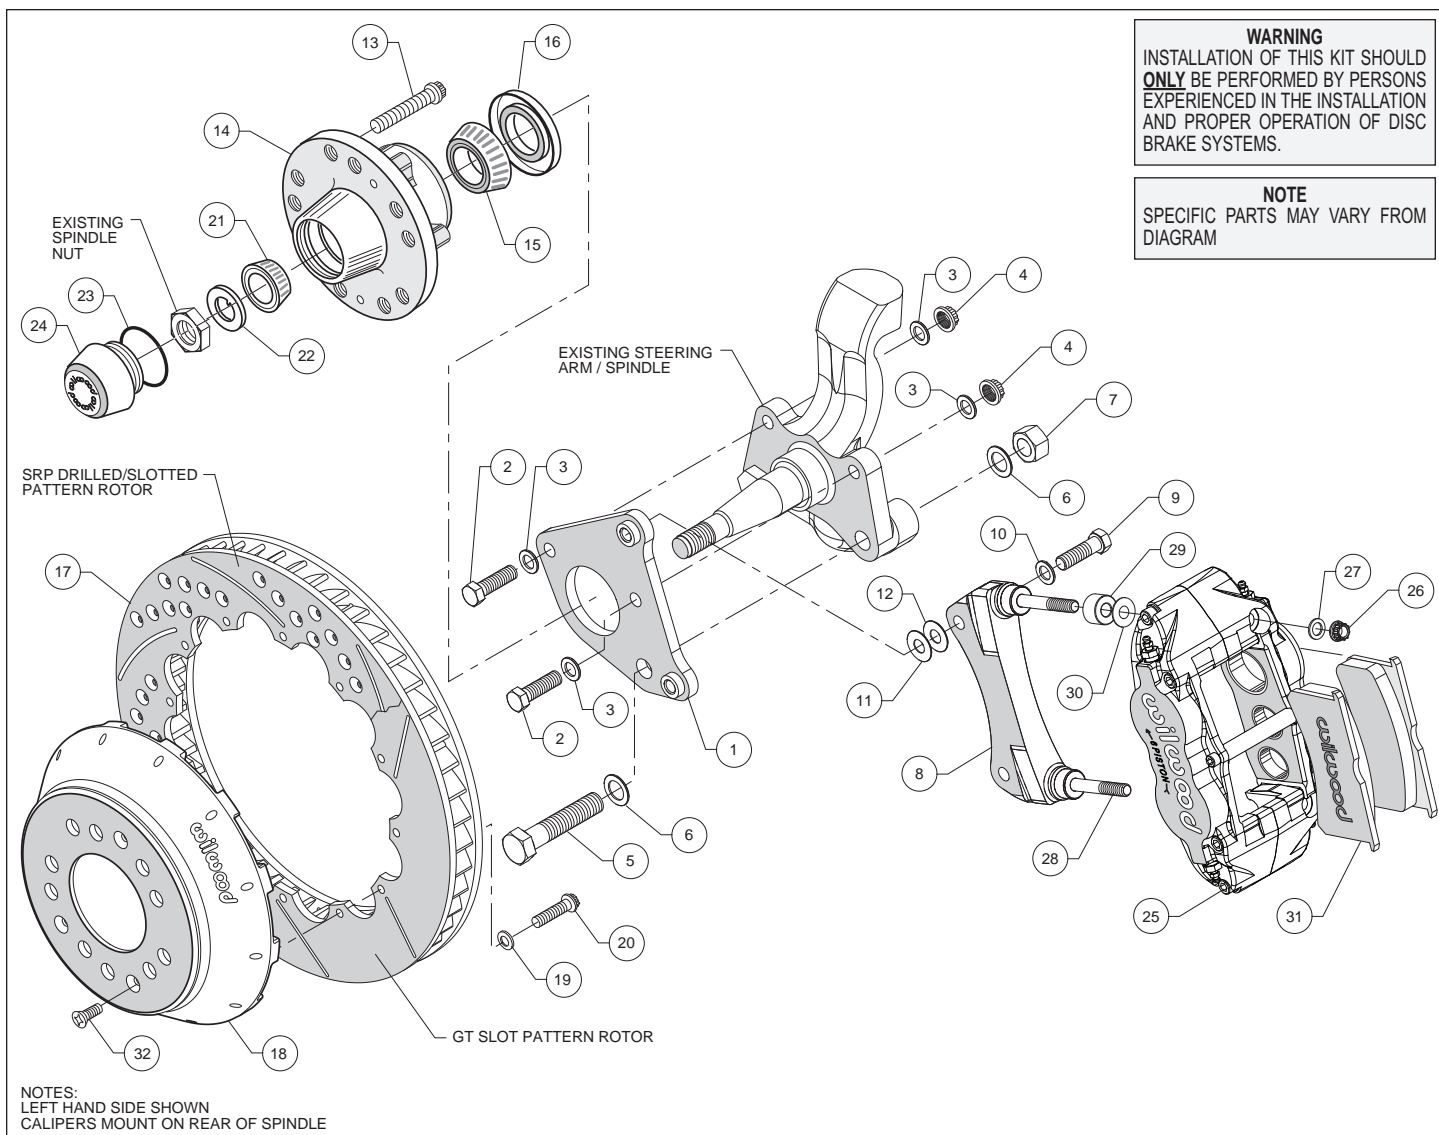
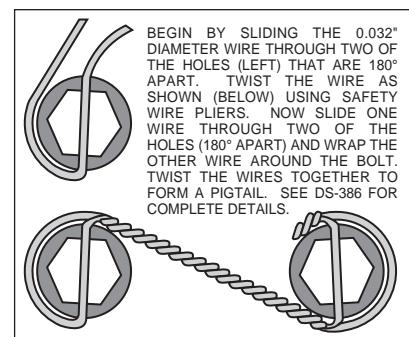

Figure 1. Typical Installation Configuration
Figure 3. Safety Wire Diagram
- Apply red *Loctite*® 271 to bolt threads (2 and 5) before assembly of the flat caliper bracket (1) to backing plate face of spindle. Install bolt (5) and washer (6) through caliper bracket (1), spindle face and the steering arm. Install another washer (6) and lock nut (7) on the rear side. Install two bolts (2) with washer (3) through caliper bracket (1), spindle face and the steering arm. Install another washer (3) and lock nut (4) on the rear side. Torque two lock nuts (4) to 47 ft-lb. Torque lock nut (7) to 140 ft-lb. **NOTE:** Be sure the heads of the caliper bracket (1) insert nuts are facing outward toward the wheel. Reference Figure 1 as necessary.
- The radial caliper mounting bracket assembly (8) should be installed first with clean, dry threads on the mounting bolts. Install the bracket on the inboard side of the flat caliper mounting bracket (1) by sliding bolt (9) through flat washer (10), through the mounting hole in the bracket (8) and into the flat bracket (1) insert nuts. Initially place two shim washers (12) between the two brackets (1 and 8) (see figure 1). The radial bracket (8) must tighten squarely against the inboard side of the flat mounting bracket (1). Later, after the caliper, pad, and rotor alignment has been checked, and any necessary shims have been put in place, the mount bolts should be coated with red *Loctite*® 271 and torqued to 47 ft-lbs.
- Install five new wheel studs (13) into the hub (14). Torque to 77 ft-lb. **NOTE:** There are two five lug patterns in the hub (5 x 4.00 and 5 x 4.50). Make sure of the correct hole pattern for the correct wheel application before installing studs into hub.
- Pack the large inner bearing cone (16) with high temperature disc brake bearing grease (available from your local auto parts store) and install into the backside of the hub (14).
- Install the grease seal (16) by pressing into the backside of the hub (14).
- With the larger I.D. side of the rotor (17) facing away from the hat (18), bolt rotor (17) to hat (18) through the backside of the rotor using washers (19) and bolts (20). Using an alternating sequence, apply red *Loctite*® 271 to the threads and torque bolts to 155 in-lb. For an added measure of security, the bolts may be safety wired using standard 0.032 inch diameter stainless steel safety wire as shown in Figure 3. Please refer to Wilwood's data sheet DS-386 (available at www.wilwood.com/Pdf/DataSheets/ds386.pdf) for complete safety wire installation instructions.
- Pack the small outer bearing cone (21) with high temperature disc brake bearing grease. Lightly coat the spindle bearing surfaces with bearing grease. Slide the hub assembly (13, 14, 15 and 16) with outer bearing cone (21) onto the spindle. Secure using spindle washer (22), existing adjusting nut and nut locking device.
- Install the dust cap (24) onto the hub (23). Friction created by the o-ring (23) on the dust cap (24) keeps it from unscrewing. The O.D. of the existing spindle washer may be larger than the I.D. of the dust cap (24) which may allow the washer to contact the dust cap (24). Use the spindle washer (22) supplied with the kit instead of the stock washer.
- **NOTE:** *This kit contains distinct right and left hand calipers that must be mounted in a specific direction, as described below.* Lubricate the caliper mounting studs (28) with lightweight oil. Initially place two .035" thick shims (29) and one spacer (30) on each stud as shown in Figure 1. Mount the caliper (25) onto the bracket (8) using lock nuts (26) and washers (27), Figure 1. Ensure that the caliper is mounted so that the largest pistons are at the rotor exit end of the caliper, in relation to the direction of rotor rotation. Temporarily tighten the lock nuts and view the rotor through the top opening of the caliper. The rotor should be centered in the caliper. If not, adjust by adding or subtracting shims (11 and/or 12) between the radial bracket and the spindle bracket. Always use the same amount of shims on each of the two mounting bolts.
- Remove the caliper center bridge pad retainer bolt, nut, and tube from the caliper. Slide the brake pads (31) into place. They should install easily without interference. Check that the outside radius of the brake pad is flush with the outside diameter of the rotor face. Add or subtract shims (30) between the caliper and radial mounting bracket to gain the proper alignment. Reinstall the center bridge pad retainer tube, bolt, and locknut. The locknut should be snug without play in the bolt or tube. Be cautious not to over tighten.
- Once all clearances have been checked, remove the wheel, caliper, hat, and rotor from the spindle and hub. Secure the radial caliper mounting bracket (8) to the flat caliper mounting bracket (1) using red *Loctite*[®] 271. Torque the bolts to 47 ft-lbs. Reinstall the hat and rotor assembly and again use several lug nuts to hold it in place. Reinstall the caliper, torque the caliper nuts (26) to 28 ft-lbs.
- Install three flat head socket screws (32) through the small holes in the hat (18) and torque to 85 **in-lb**.